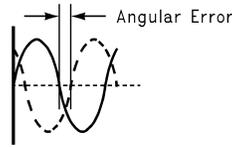

Figure 32. Angular Errors Between the Two Input Signals Will Reduce the Output Level or Cause Distortion
- Dev is the angular difference between the two signals having a 180° relative phase relationship to each other (see Figure 32) (6)